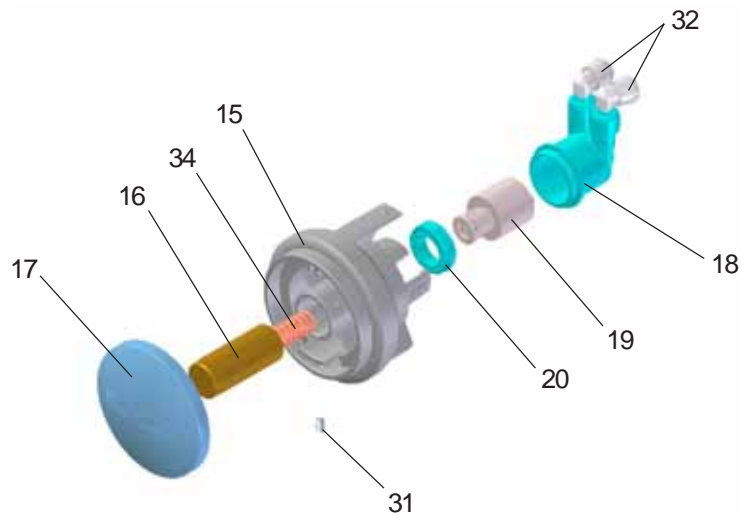

Figure 14 - Push Button
9. **Check** stream height from bubbler. Stream height is factory set at 35 PSI. If supply pressure varies greatly from this, remove push button (Item 17 - Figure 14) and adjust the screw on the regulator (Item 19 - Figure 14). To remove push button, remove setscrew from bottom of sleeve (Item 15). Insert a small punch in screw hole and push up while grasping the push button and pull forward removing the push button. Clockwise adjustment will raise stream height and counterclockwise movement will lower stream height. For best adjustment stream should hit basin approximately 6-1/2" from the bubbler. Reassemble the push button by pushing in on button until the push button catches in the sleeve. Reinstall the setscrew (Item 31) in the sleeve (Item 15).